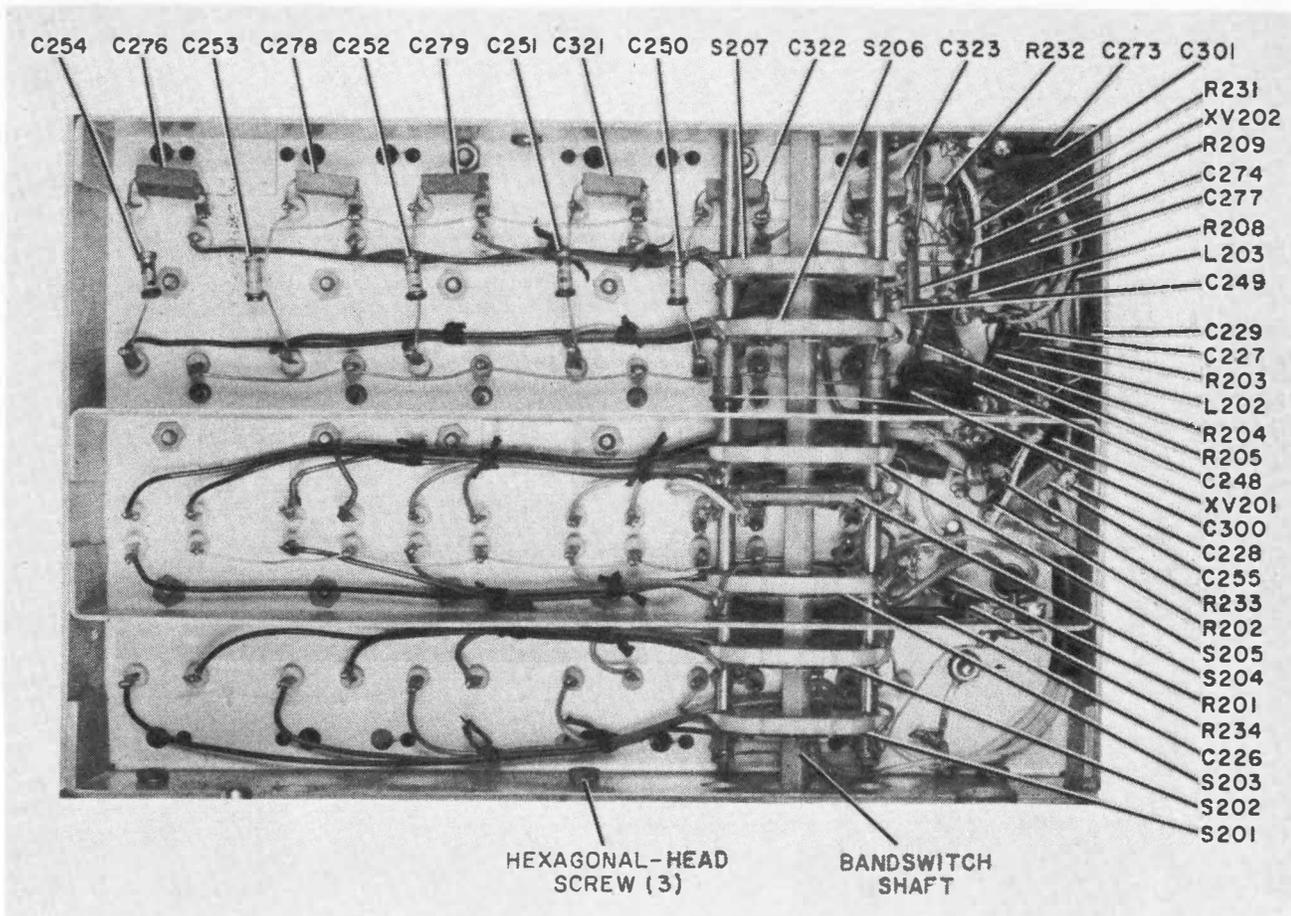

Figure 6-20. RF Subchassis, Front Section
1. Slide the band switch shaft (figure 6-20) to the rear to clear the riveted front gear plate (109).
2. Mark the pressed rear plate (180) at the points of the two soldered RF cams (185) and (187).
3. Remove the two taper pins (186) and (188) and pull the soldered RF cams (187) and (185) off the camshafts (184) and (183).
4. Remove the three hexagonal-head screws (figure 6-20).
5. Remove the three Phillips-head screws (not shown) that secure the pressed rear plate (180) to the RF amplifier subassembly.
6. Remove the flathead machine screw (127) and the machine screw (182) and split lockwasher (181) that secure the long post (156).
7. Slide the pressed rear plate (180) to the rear to remove it.
8. Remove the two Phillips-head screws, two lockwashers, and two nuts (not shown) from the two cam plate brackets (118) (only one shown). The Phillips-head screws secure the RF gear grain assembly to the RF amplifier subassembly.
6. Slide the 0.5- to 1-MHz camshaft (164) through the holes marked F. Replace the soldered RF cam (56) and taper pin (57). Set the point of the cam to the cam positioning mark. Replace the soldered RF cam (157) and taper pin (158) with the point of the cam set at the mark previously made on the pressed cam plate (149).
7. Secure the pressed auxiliary cam plate (179) with the three short posts (152) and six flathead machine screws (126) (only one of each shown).
8. Place the RF amplifier subassembly (figure 6-20) in position to fasten it to the RF gear train assembly. Engage but do not tighten the two Phillips-head screws (not shown), two lockwashers (not shown), and two nuts (not shown) that fasten the two cam plate brackets (188) to the RF amplifier subassembly.
9. Slide the pressed rear plate (180) forward on the two camshafts (183) and (184) until it is against the rear of the RF amplifier subassembly. Engage but do not tighten the three Phillips-head screws (not shown) that fasten the pressed rear plate (180) to the RF amplifier subassembly.
10. Replace the long post (156) but do not tighten the flathead machine screw (127) and the Phillips-head screw (182) and split lockwasher (181).
11. Replace the three hexagonal-head screws (figure 6-20).
12. Slide the band switch shaft (figure 6-20) forward until its retaining rings rest against the riveted front gear plate (109).
14. Replace the two soldered RF cams (187) and (185) on the two camshafts (184) and (183). Set the points of the cams at the marks previously made on the pressed rear plate (180). Replace the two taper pins (186) and (188).